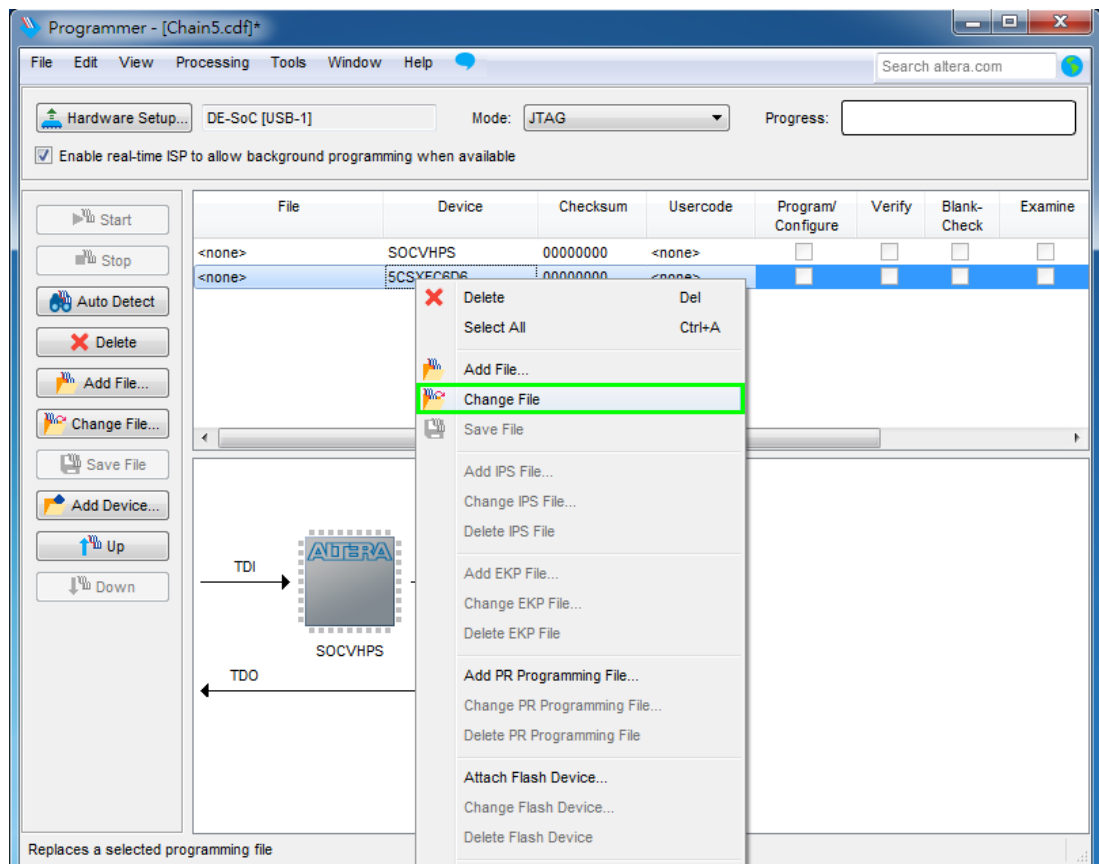

Figure 3-6 Open the .sof file to be programmed into the FPGA device
4. Right click on the FPGA device and open the .sof file to be programmed, as highlighted in Figure 3-6.